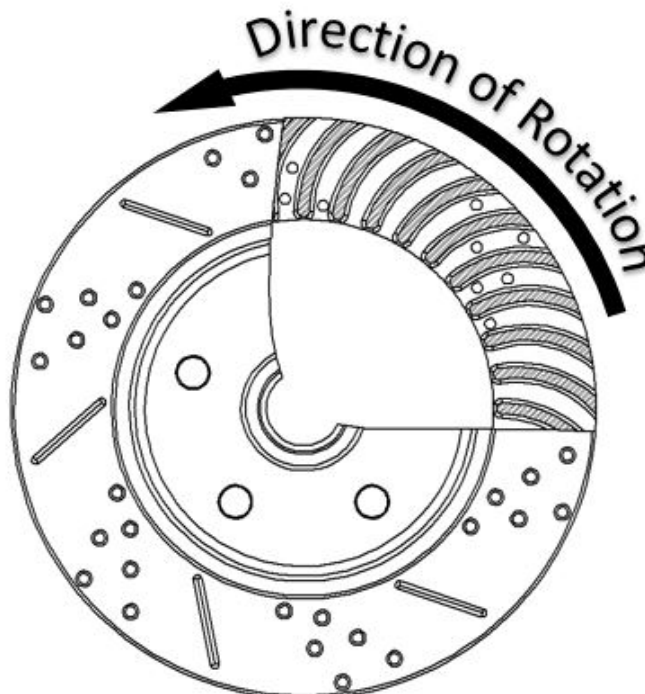
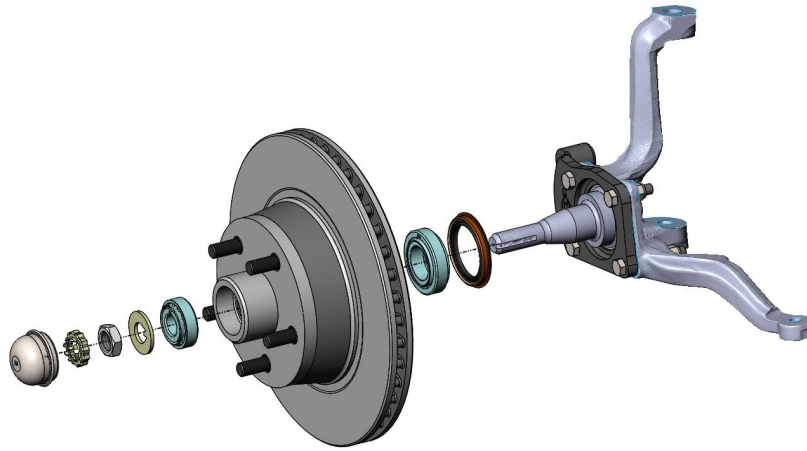

Figure 3 – Rotor Orientation
Figure 4 – Rotor Installation
6. Slide the rotor onto the spindle. The inner wheel bearing and grease seal should be installed at this point. With the rotor fully pushed onto the spindle, install the outer wheel bearing followed by the keyed washer and the spindle nut. When tightening the spindle nut, tighten to 5-10 ft/lbs. Loosen the nut and tighten again using the same 5-10 ft/lbs. Do this a couple of times spinning the rotor to fully seat the wheel bearings onto the spindle. Loosen the nut a final time and re-tighten to move all play. Tighten approximately an additional 1/16th of a turn to give the appropriate pre-load and line up the cotter pin hole. Install the spindle nut retainer and the cotter pin to secure followed by the grease cap. See Figure 4 on next page for reference. **IMPORTANT:** If using slotted and drilled rotors, pay close attention to Figure 3 below for proper rotor placement on the driver or passenger side.